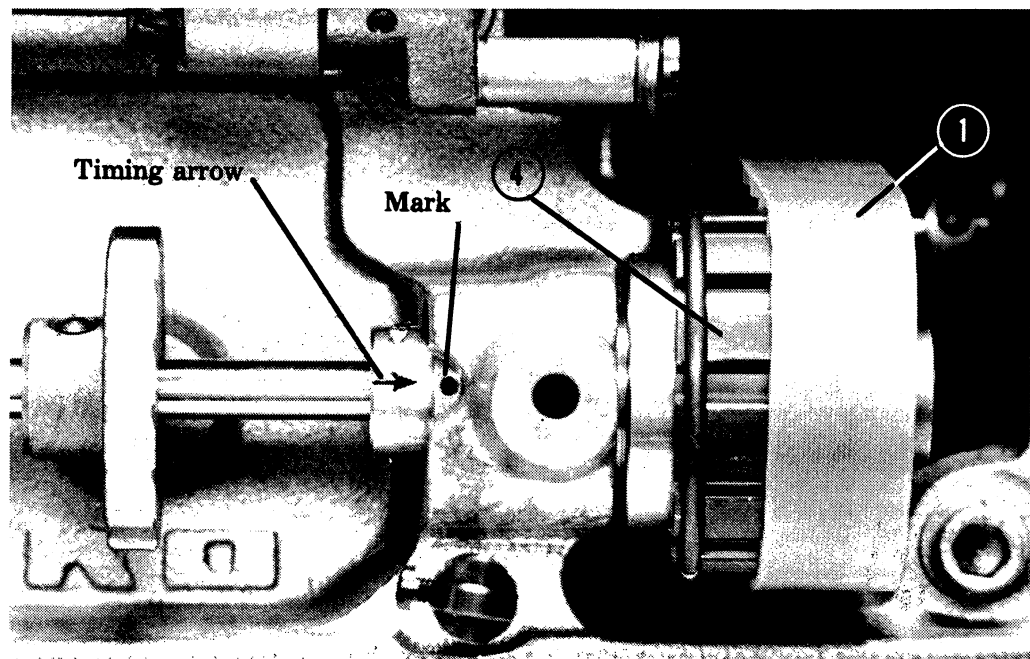

Fig. 6
the needle about 1/16 inch (1.5mm) above the eye. To test the correct timing of the needle on machines with vertical axis hooks, turn the handwheel until the take-up lever is at its highest point. The timing arrow (Fig. 6) on the shaft collar must line up with the timing mark on the bushing and the point of the hook must cross the center of the needle as just described. If it should now be determined that the machine requires re-timing, proceed as follows:
Force belt (1, Fig. 6) to be replaced off the lower belt pulley (4) by turning the handwheel and pushing the belt outward at the same time. Then remove handwheel. Loosen arm shaft bearing sleeve set screw at rear of arm and after opening of Arm Top Cover, pull out bearing from handwheel side. Now draw up Arm Shaft Belt through opening in top of arm, pulling its end through the space previously occupied by the bearing.
After installing the belt, replace arm shaft bearing and handwheel and tighten all set screws securely. Slip belt on to upper belt pulley and turn handwheel toward you until take-up lever reaches its highest position. Make sure arm shaft remains in this position and turn hook shaft (Lower Shaft) manually until the timing arrow on the shaft collar and the timing mark on the bushing (Fig. 6) are aligned. Make sure that arm shaft and hook shaft are held as described and carefully slip belt onto belt pulley "4." This will assure that needle bar and feed motion are timed properly.